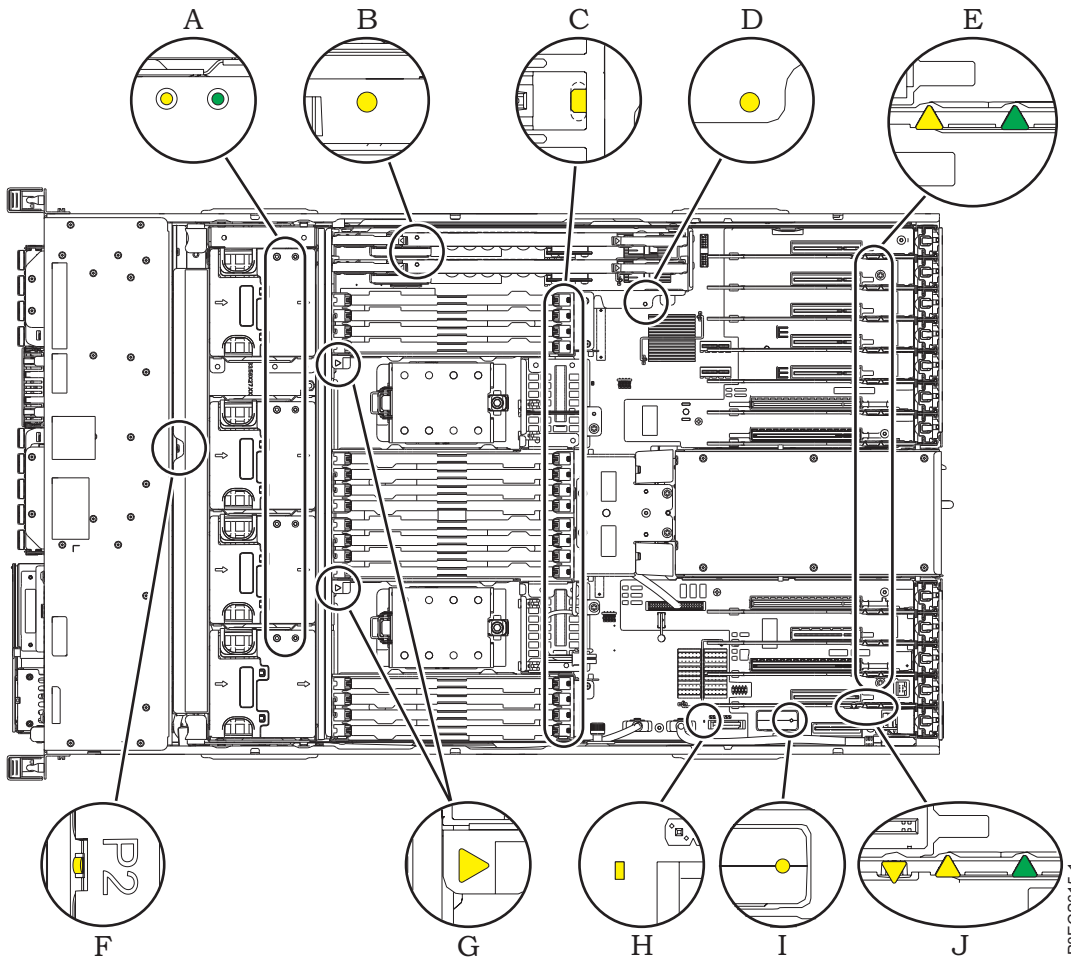

Figure 58. Service indicator LEDs
7. Look for the amber LED (D) of the system backplane. See Figure 58 on page 60.